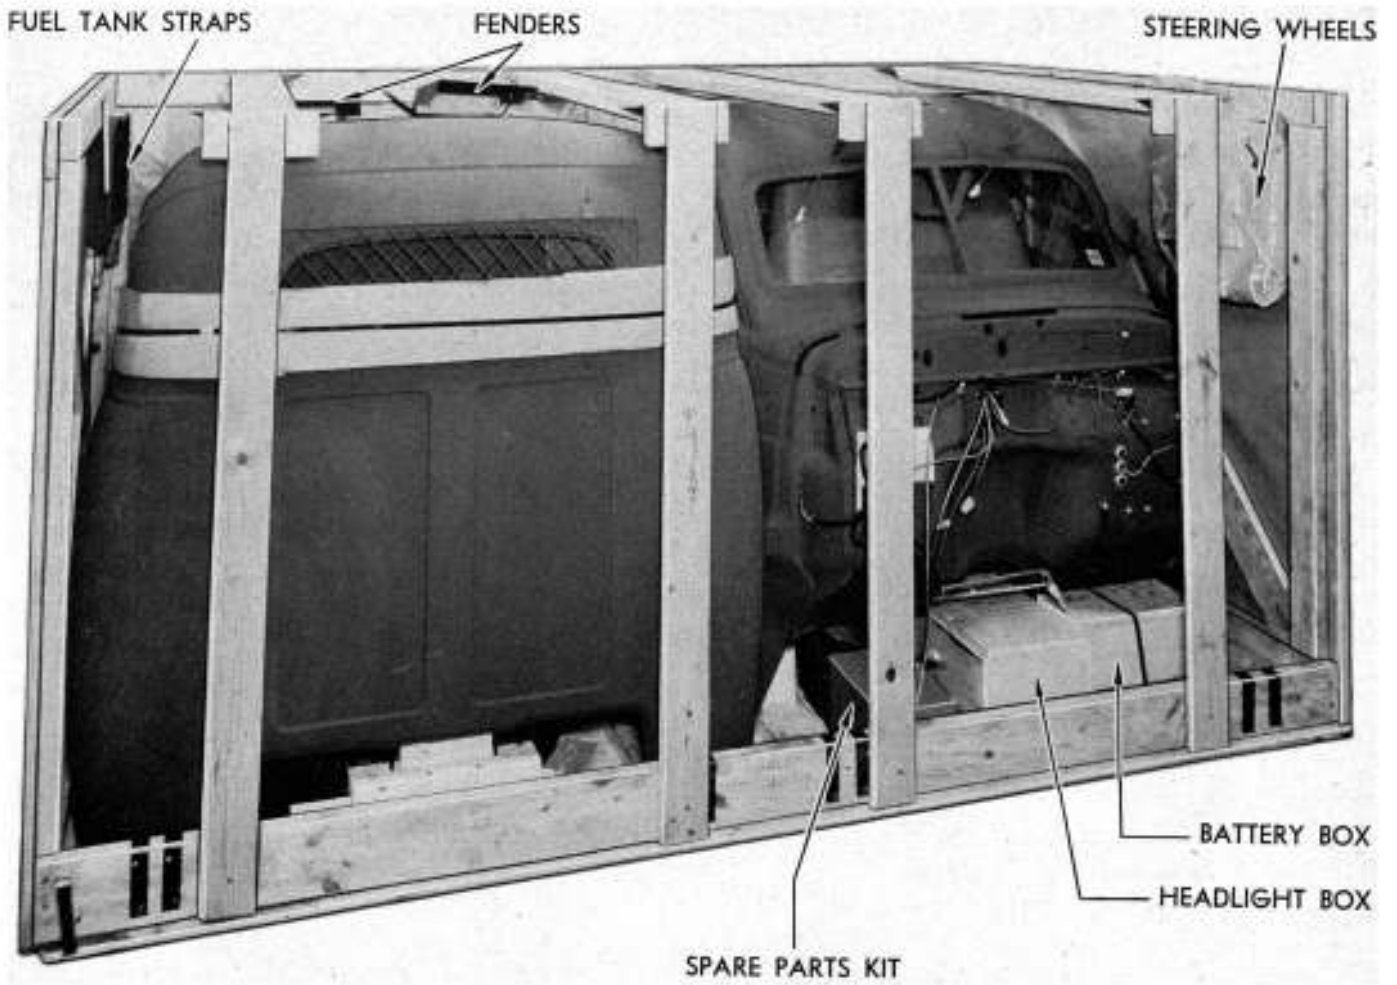

Figure 8—Cab Case with Top and Side Removed
b. Opening Case. See paragraph 3 b for instructions on opening cases. Be careful when opening cab case, to reduce the possibility of breaking any of the window glasses, or causing other damage (fig. 8).